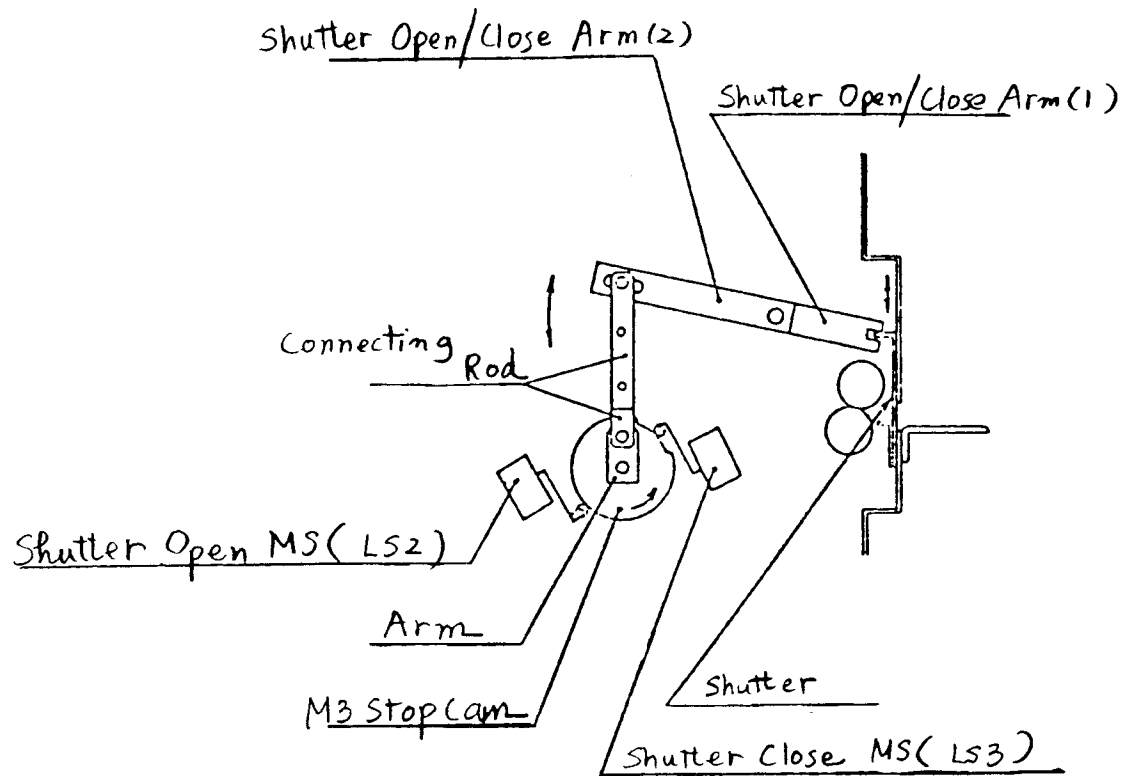

Fig. 9 Schematic of Shutter Open/Close Assembly
First temporarily fasten the connecting rods at the center of oval hole of the shutter open/close arm (2) shown in Fig. 9. Then check the following points.
2. Bring the arm down till it is placed to the connecting rods in a straight line. Make sure that the shutter stops above the exit opening and the shutter open/close arm (1) is free from any contacts with the back cover.